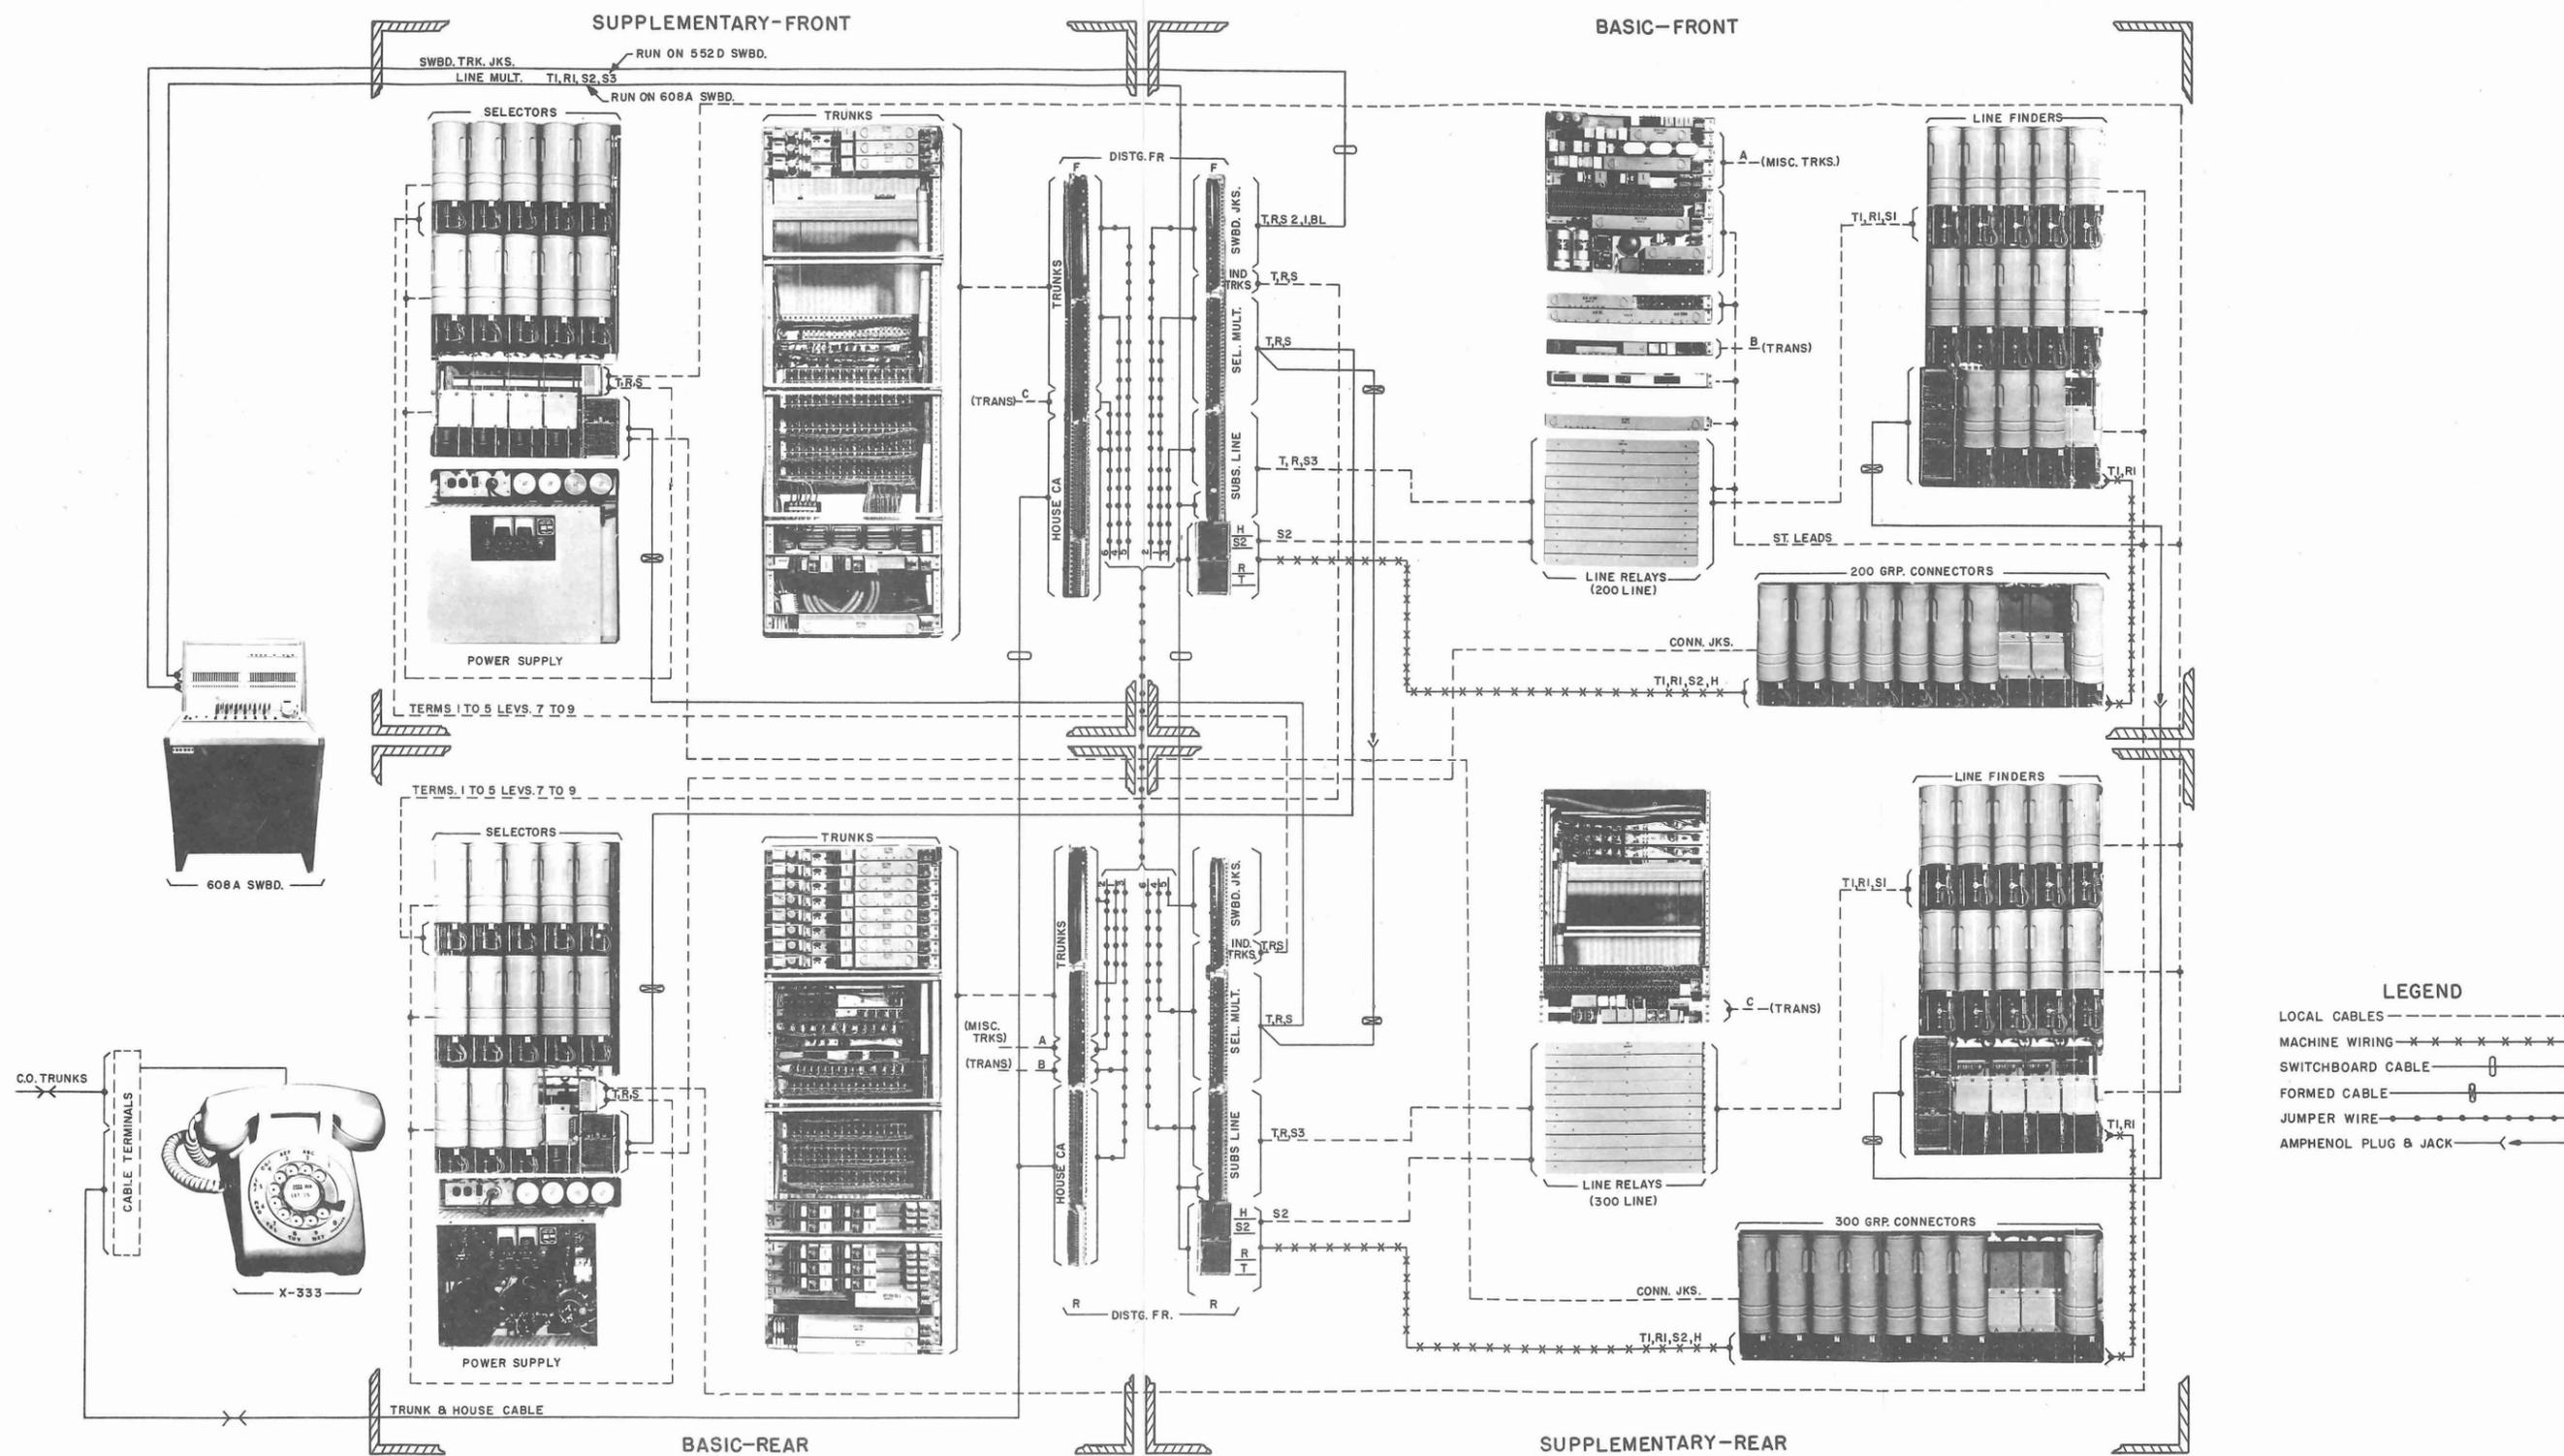

Fig. 3 — Distributing Frame — Connection Schematic
2.02 Figure 3 provides a half tone of the distributing frame showing the general pattern of the jumper cross-connections between the two modules and the switchboard and feeder cables.